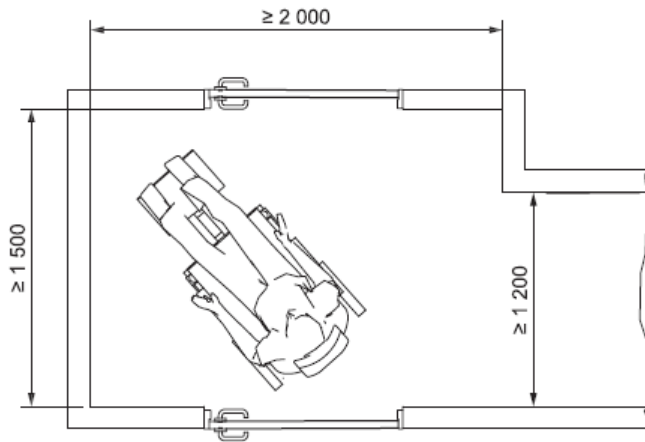
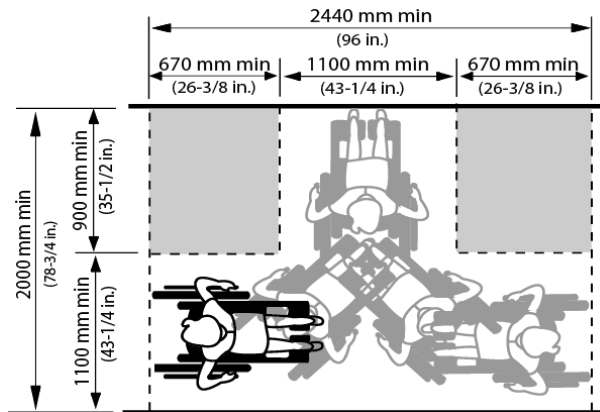

Figure 59: Space Required for a 180° Turn in a Corridor
Figure 60: 180° Degree Turning Space
- Are 2000 mm in the direction of travel and at least 1500 mm wide (Figure 59 and Figure 60)